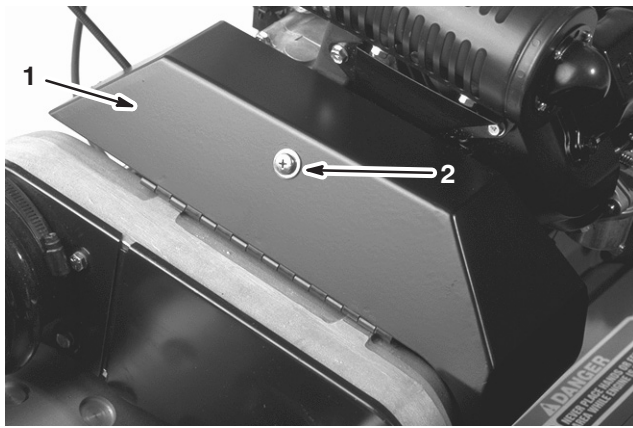

Figure 39
2. Loosen the retainer securing the V-belt cover and pivot the cover open (Fig. 39).